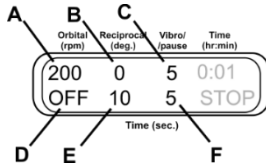
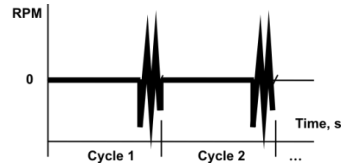

Figure 11.
Figure 12.
- 6.9.4. **Vibration + Pause.** Turn off Orbital motion by setting time of Orbital motion below zero (fig. 11/D, OFF). Set the amplitude of Reciprocal motion (fig. 11/B) to zero. Set the time for Reciprocal motion (fig. 11/E, 1–250 s), this is the time of pause duration. Set the amplitude (fig. 11/C, 0–5°) and time (fig. 11/F, 1–5 s) for Vibro motion. See figure 12 for process visualization.